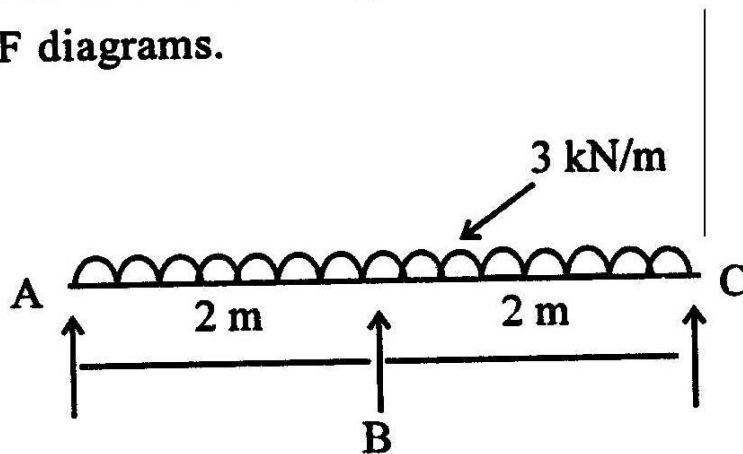

Figure -1.
3. A beam ABC of length 4m rests on three supports equally spaced and is loaded with UDL of 3 kN/m throughout the length of the beam as shown in figure -1. Plot the B.M and S.F diagrams. (12)